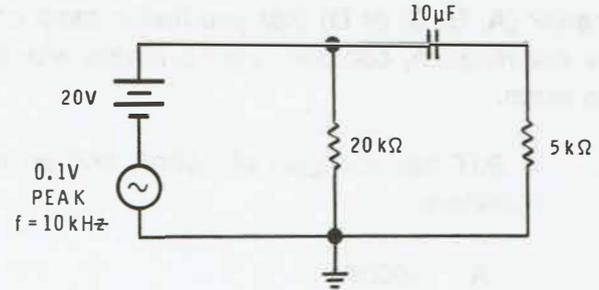

Figure 1-23
6. In Figure 1-23, the AC load line has a slope of: